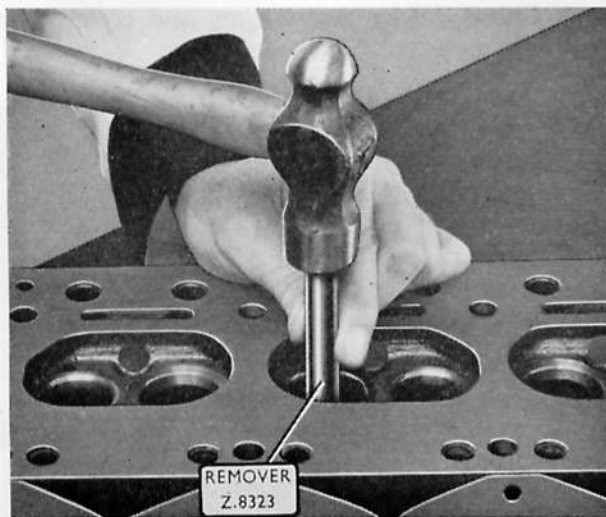

Fig. A.31. Removing a valve guide
2. If the valve clearance in the valve guide bore exceeds the specified maximum, renew the guide (Figs A.31 and A.32). The guide must be pressed in until the installer contacts the top of the cylinder head.